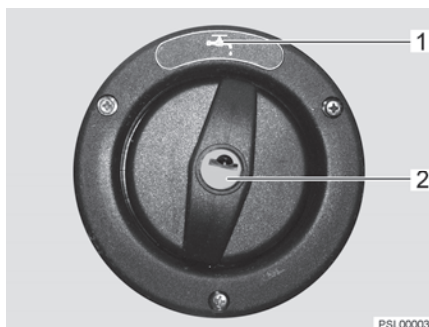

Fig. 131 Cap for the drinking water filler neck
The drinking water filler neck is indicated by the symbol "🚰" (Fig. 131,1). The cap is opened and closed using the key for the external flap locks.
- Insert key into locking cylinder (Fig. 131,2) and turn a quarter turn in an anticlockwise direction.
- Open drinking water filler neck (Fig. 131).